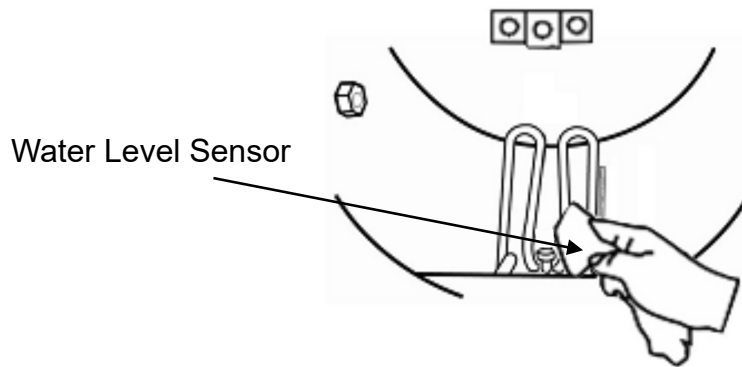

Figure 51
- Use the non-corrosive cleaner and stiff bristled brush or sponge to clean the water level sensor at the front of the chamber as Figure 51.